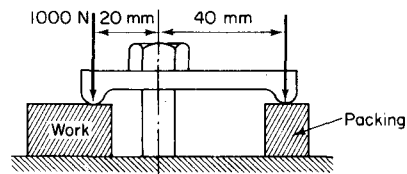

Fig. 26
92. Fig. 26 shows a plate clamp. The force in the bolt is